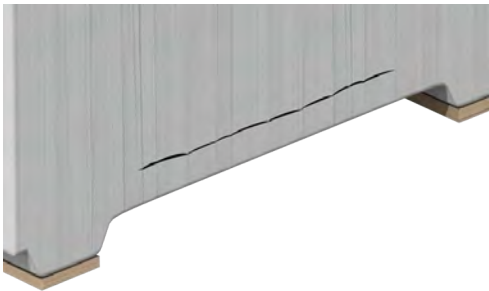

Figure 6.3
6.3 Slit bottom wrapping as shown for ventilation (figure 6.3).